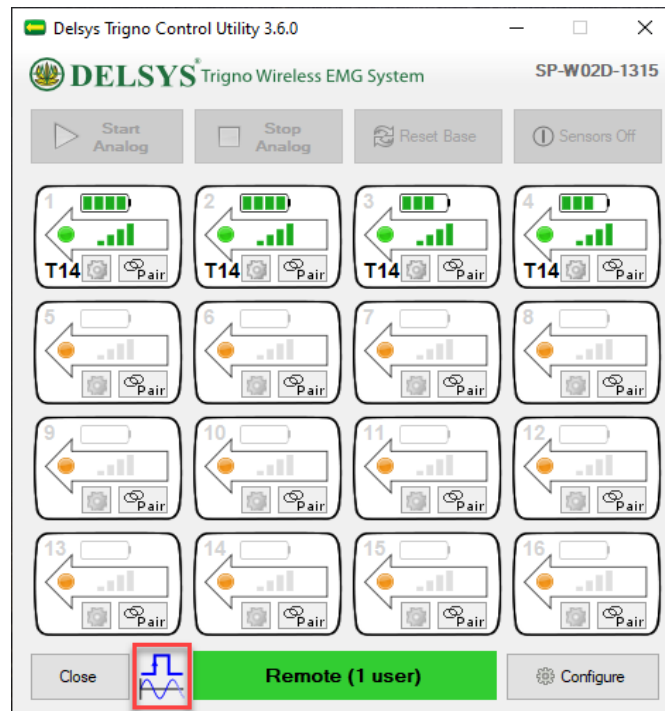

Figure 10: Icons highlighting the Trigger Module and data streaming status with the Delsys Trigno Control Utility.
7. To ensure that data from the Trigno System are streaming and that the Trigger Module is configured correctly check the status of the icons representing the system highlighted in Figure 10. Make sure both are now represented in blue.